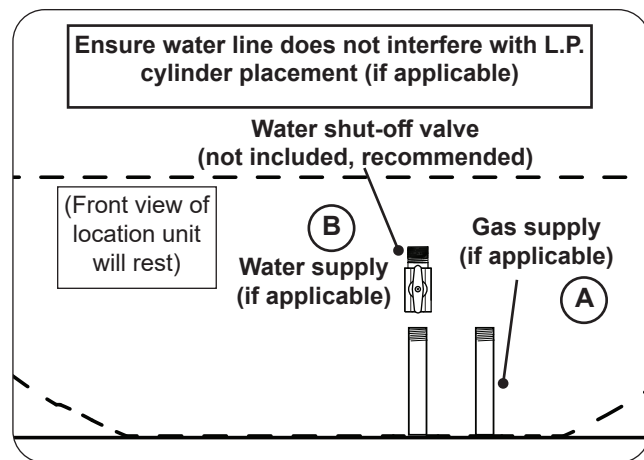

Fig. 24-1 Route gas and water supply (if applicable)
1. Ensure the gas supply is properly routed into the area that the unit will rest over (see Fig. 24-1, A).
1. Plumb the water supply into the area that the unit will rest over (see Fig. 24-1, B).
Note: It is recommended that a water shut-off valve (not included) be attached to the water supply line. It can be installed remotely or at the end of the water supply line. See Fig. 24-1, B for an example.